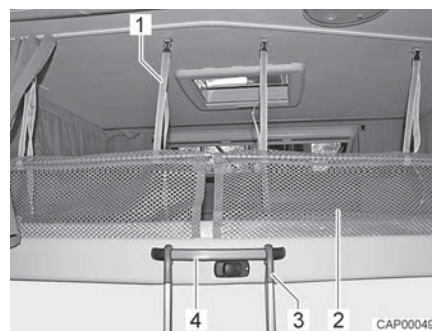

Fig. 76 Access ladder and safety net
- Hook the access ladder (Fig. 76,3) to the pull-down bed by attaching the two hooks to the curved handle (Fig. 76,4).
**Safety net** The safety nets (Fig. 76,2) with the retaining straps are stored under the mattress. Only use the safety nets if persons are already in the pull-down bed.
**Setting up:** ■ Fasten the retaining straps (Fig. 76,1) to the holders on the ceiling.